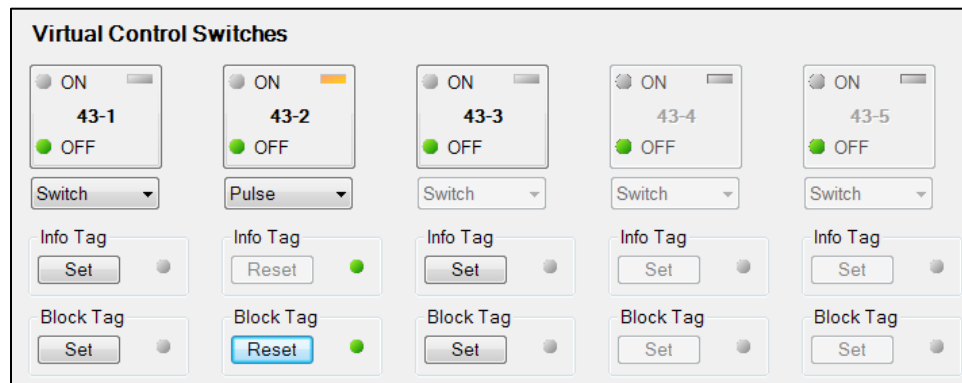

Figure 24-1. Virtual Switches Control Screen
1. Use the Metering Explorer to open the Control/Virtual Switches tree branch (Figure 24-1).
2. If Switch/Pulse mode is selected on the Virtual Control Switches (43) settings screen in BESTCOMSPi.us, use the drop-down box to select either Switch or Pulse.
Tagging of virtual control switches can be accomplished through the front panel and through BESTCOMSPi.us. Use the Metering Explorer in BESTCOMSPi.us to open the Control/Virtual Switches tree branch. Click on the Set button for Info Tag or Block Tag. If tagging is successful, the indicator to the right of the Set button will turn green. A tagged switch is indicated by an amber indicator in the upper right corner of the element button. Click on the Reset button to clear a tag. Refer to Figure 24-1.